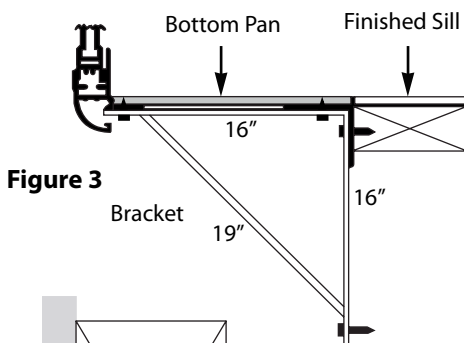

Figure 3
3. Center the Tru-Frame® Greenhouse Window in rough opening allowing equal clearance on both sides and top. Bottom pan should line up with the finished sill height, allowing for any inside additional material such as tile (see figure 3). Attach window to jambs, sill and header with screws long enough to penetrate through any furring strips and at least 1-1/2" into framing, every 12". A ribbon of caulking between the frame and flashing is a must.
4. On 5'-0" to 8'-0" wide windows, support bracing is required on each end of the window (Warranty will be void without proper support). These supports can be constructed as part of the wall framing or metal support brackets may be fabricated to adequately support the window. Fasteners to be supplied by installer (1/4" x 3" lag screws are suggested for wall mounting). Brackets must attach to the vertical studs below the window (see figure 3). For windows over 6' wide, a third support is required in the center.
5. Fastening the bracket to the bottom pan is not necessary. If fasteners are desired, the MAXIMUM screw length will be 1/2" as shown in Figure 3. Use caution when attaching as not to penetrate the inside pan surface.